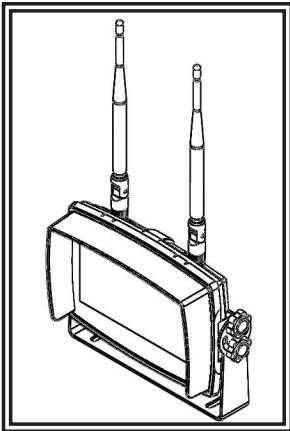

Figure 3
- Attach the sun-visor as shown. Attach the antennas so they point upward as shown in Figure 3.